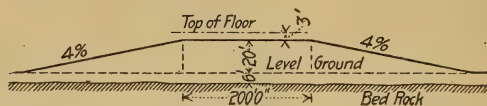

FIG. 4.
8. Describe, without going into details, how you would design the following structure: A 200-ft. highway span over railway track with viaduct approaches, as shown in Fig. 4. Bed rock, 6 ft. below surface of ground. The headroom over tracks to be 20 ft. under 200-ft. span. Top of floor to base of rail not to exceed 23 ft. No limitation as to headroom under approaches. Roadway to be 40 ft. wide in the clear between curbs, with two 6-ft. sidewalks. Indicate in writing the principal characteristics of each portion of the structure, such as length of spans, columns, girders, floor, bracing, etc., assuming that the highest class of structure is required.
5. Find maximum bending moment on pins shown in Fig. 4.